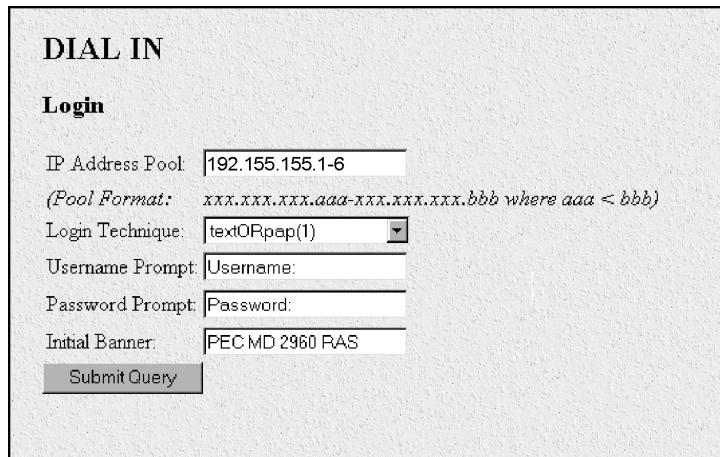

Figure 29. Modify Dial-In window, Login section
2. Click on **Modify**. The Modify Dial-In window appears (see figure 29).